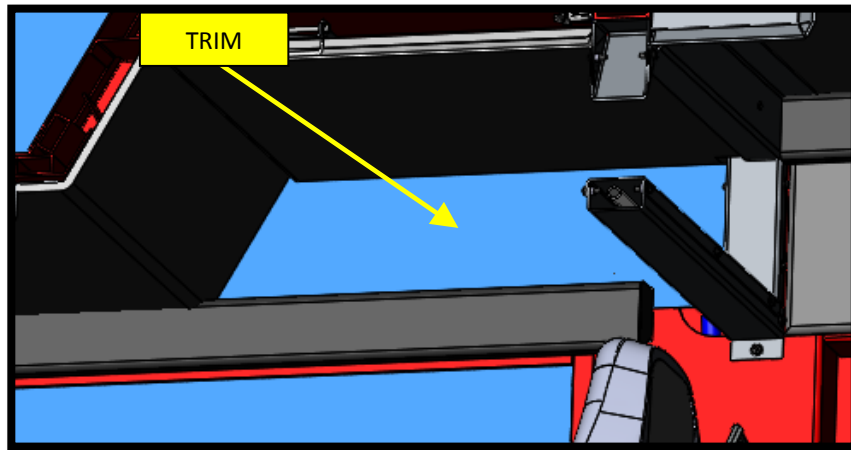

**FIG. 17-2**
30. Reinstall trim located above officer side front seat, using retained hardware. Refer to FIG. 17-2.